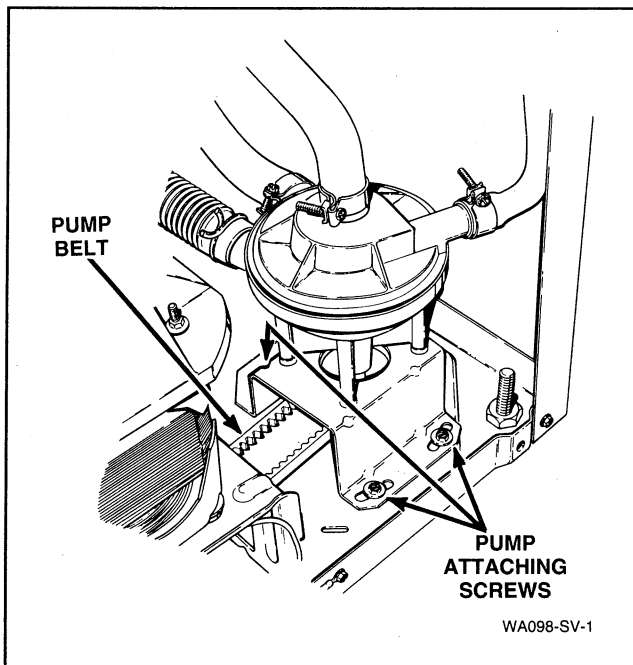

Figure 46
- Loosen the two front pump mounting screws, *Figure 46*, then loosen the rear screw.